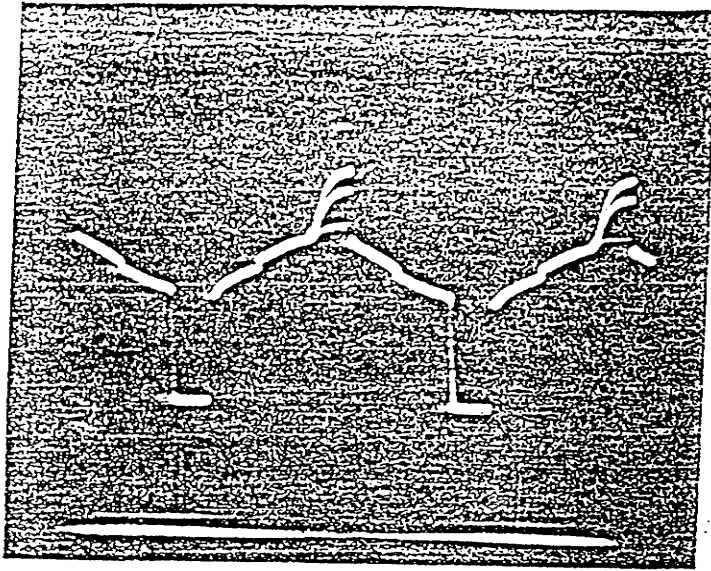

FIG. 1
4. Change the ground side connection of C103 to the pin 6. This can be done by unsoldering the lead of C103 connected to ground and soldering it to the junction of R112 and R171. (see Fig. 1)
7. Remove L103, C136 and R170 (Q120 emitter RLC network- negative predriver in the low side of the bridge). In place of R170 install a 5.6 ohm $\frac{1}{2}$ w resistor. Likewise install from the emitter of Q120 to ground a .047 mfd capacitor (see fig. 1).	C 3299-2 C 3978-1
- From pin 13 of IC 100B to the +15v supply, install (in series) a 2 Kohm $\frac{1}{2}$ w resistor and 27pfd capacitor network (see fig. 1). In order to insure maximum stability this value of capacitance may vary. The variation range is from 27pfd to 200pfd.
Note: Figure 1 is the foil side of 7560/7570 main module and Figure 2 is the schematic diagram of the 7560/7570 main module with the modification changes noted.
(Figure 1)